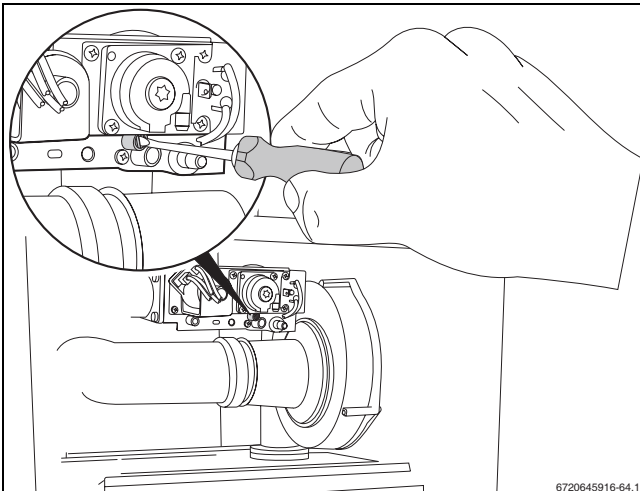

Fig. 16 Adjusting flue gases CO₂ emissions (at full load)
- If necessary: open the boiler door and adjust the CO₂ percentage to 9.3% by means of the adjustment screw on the gas valve with the red sleeve fig. 16 and close boiler door again. Note the set value in table 15.1, "Start-up report", in the installation manual.